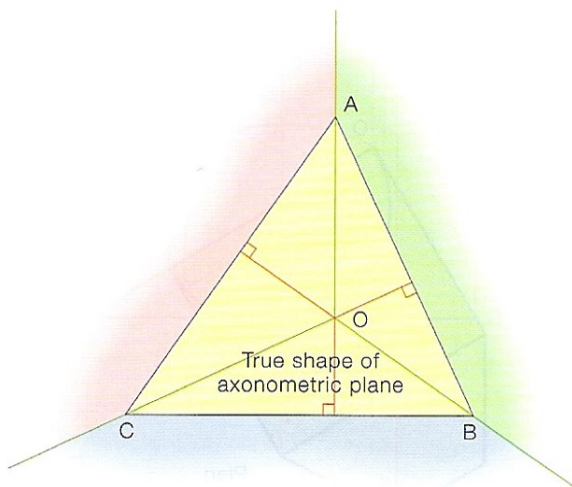
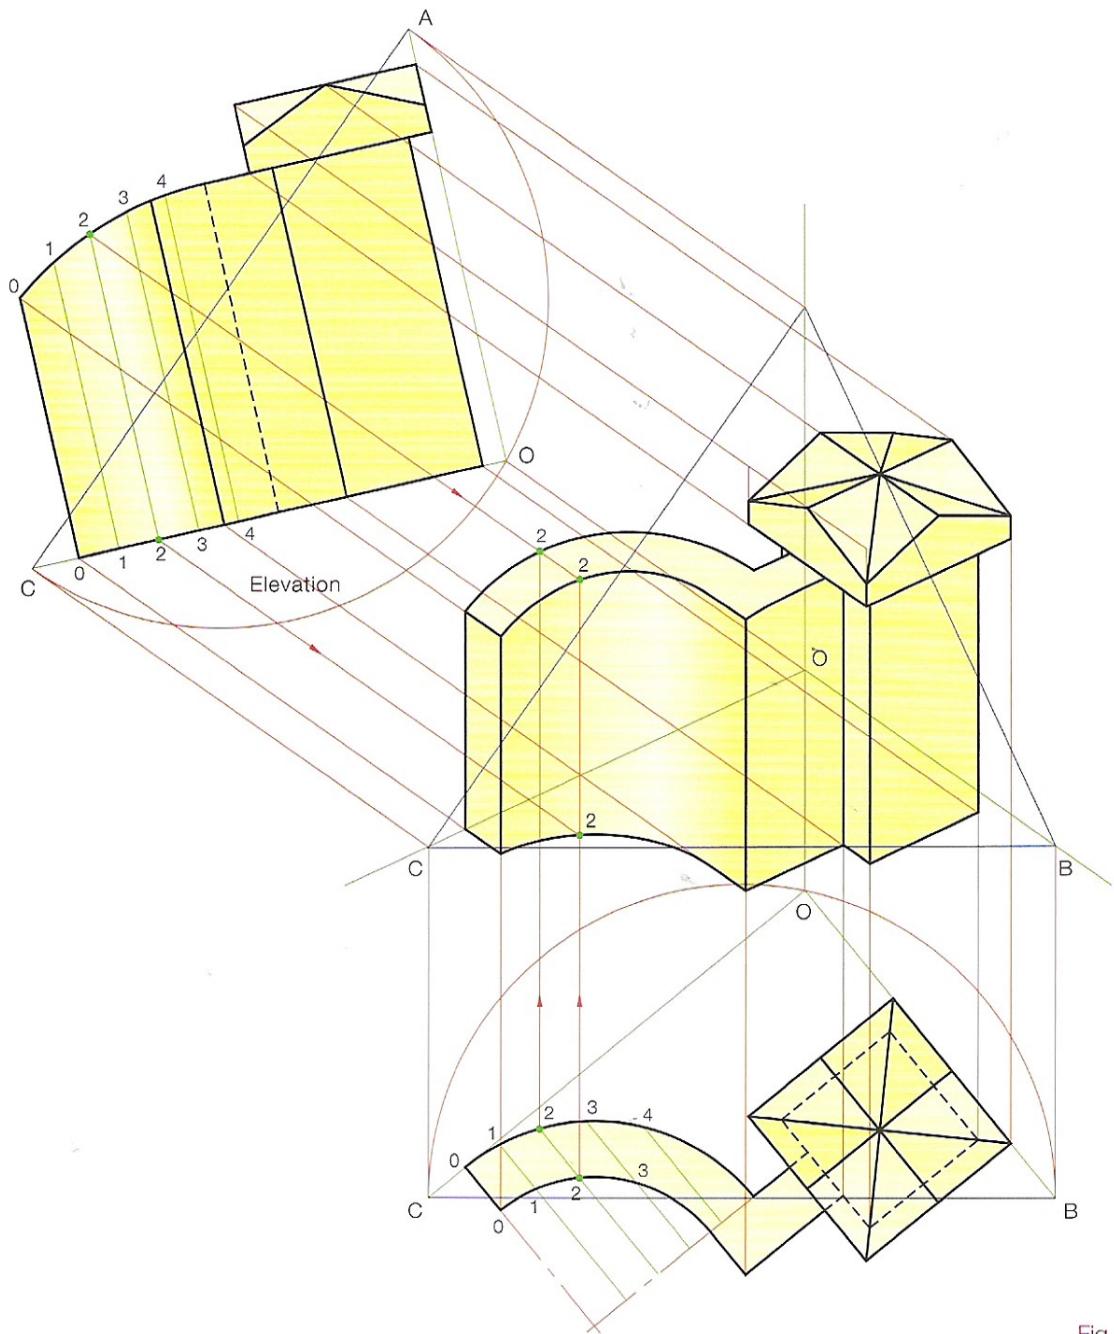

Fig. 6.86
Fig. 6.87
- (1) Set up the axes to the given angles, Fig. 6.86.
- (2) Find the true shape of the axonometric plane ABC as described before.
- (3) Project the true shape of the horizontal plane COB and the vertical plane COA.
- (4) Draw the plan and elevation on their respective planes, Fig. 6.87.
- (5) Project the trimetric view of the solid from the two orthographic views.